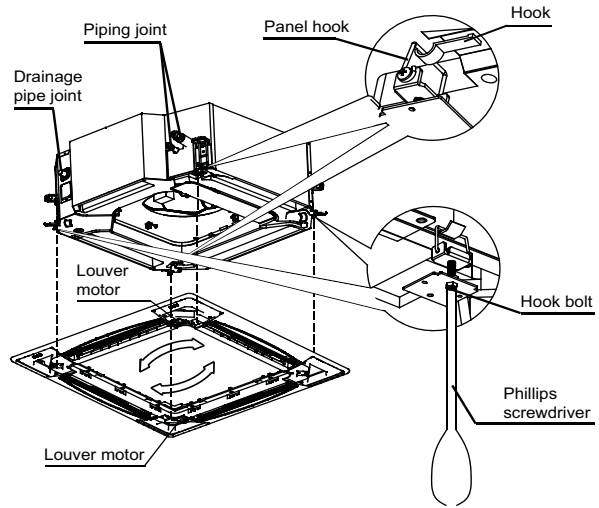

Fig. 10 — Mounting Panel
4. Secure panel (without the grille) onto the unit using M5 x 16 screws and washers. Before tightening the screws, be sure the panel is flush with the false ceiling. See Fig. 10.